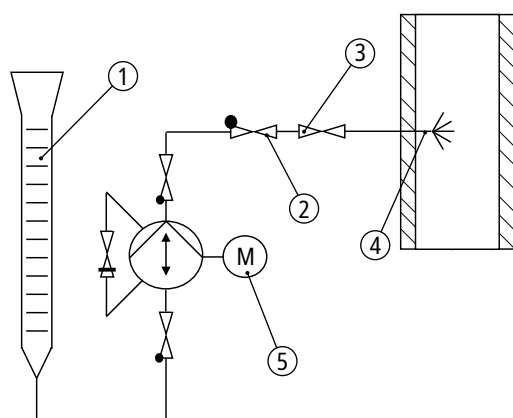

Fig. 12: Readjusting the stroke adjustment
1. Connect a measuring tube on the suction side (→ Fig. 12: Readjusting the stroke adjustment [► 27]).
3. Switch on the dosing pump and slowly turn the adjusting knob (22) clockwise until the observed dosing in the measuring tube stops.
4. Loosen the set screw (21) and turn the dosing scale (23) only until the zero line on the scale matches the colour marking on the actuator.
5. Tighten the set screw (21) lightly.